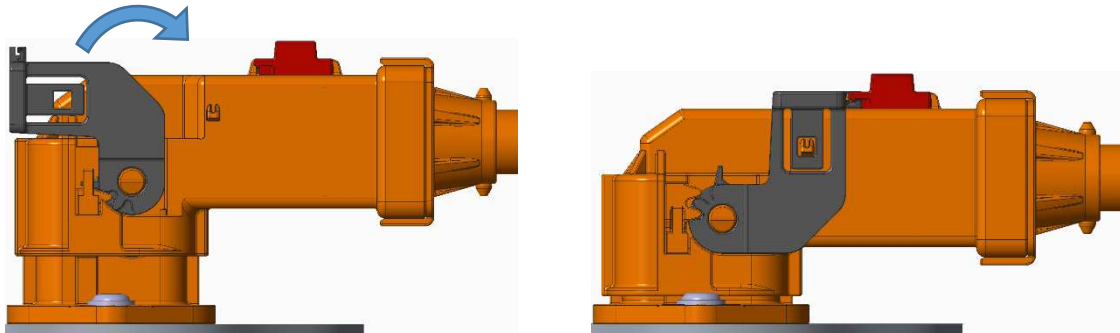

Figure 18: Lever Actuation from Open to Close
4. Rotate the lever towards the connector body until it is completely in the closed position as shown in Figure 18.